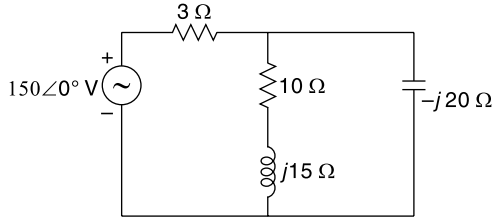

Fig. 14.78
14.86 Determine the complex power absorbed by all the elements in the circuit shown in Fig. 14.78.